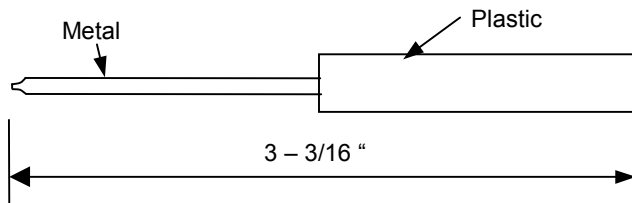

Figure 3
(5) 100 KHz Calibrator Adjustment Tune in WWV on one of its frequencies. Turn on the BFO and adjust the BFO pitch to zero beat with WWV. Turn FUNCTION switch to CAL. A het with your 100 KHz calibrator should be heard. With a small screwdriver or metal blade alignment tool, adjust C-310 through the access hole in the rear panel for zero beat. Do not change the BFO PITCH setting from the above setting.
(6) End Point Adjustment With FUNCTION switch set to CAL and BFO on (and at the same BFO PITCH position as in step (5)), set KILOCYCLE dial to +000 (a het of the BFO with the 100 KHz calibrator should be heard), tighten the ZERO ADJ. knob, zero beat by turning the KILOCYCLE CHANGE knob, and release the ZERO ADJ. knob. Set the KILOCYCLE dial to 000 (the low end of the 1000 KHz range). Again a het of the BFO with calibrator should be heard. Now comes the tricky part. Cut a plastic handled, metal blade tipped alignment tool (Radio Shack 64-2223 or equivalent) to 3-3/16 inches long – see Figure 3. The maintenance manual recommends using a non-metallic alignment tool, but I